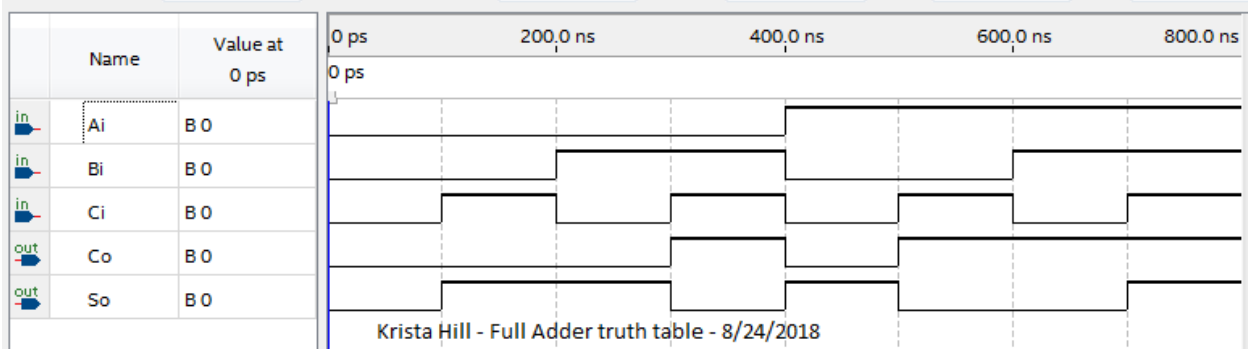

Figure 11: Resulting simulation
- Click in a nearby non-selected area to exit the Text mode. In the Image area click on the Select icon so the cursor changes to cross-hairs use the cursor to draw a box on the image you want to save, then in the Image area click the Crop icon. The result will look like that shown in Figure 11.